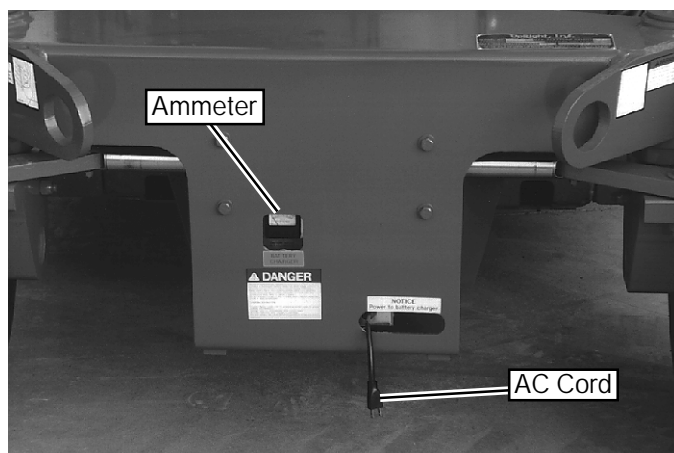

Figure 7: Battery Charger
3. Connect extension cord (minimum 12 gauge (1.5 mm²) conductor and maximum 50 ft. (15 m) in length) to charger plug located through the opening in front of the chassis (see figure 7). Connect extension cord to properly grounded outlet of proper voltage and frequency.